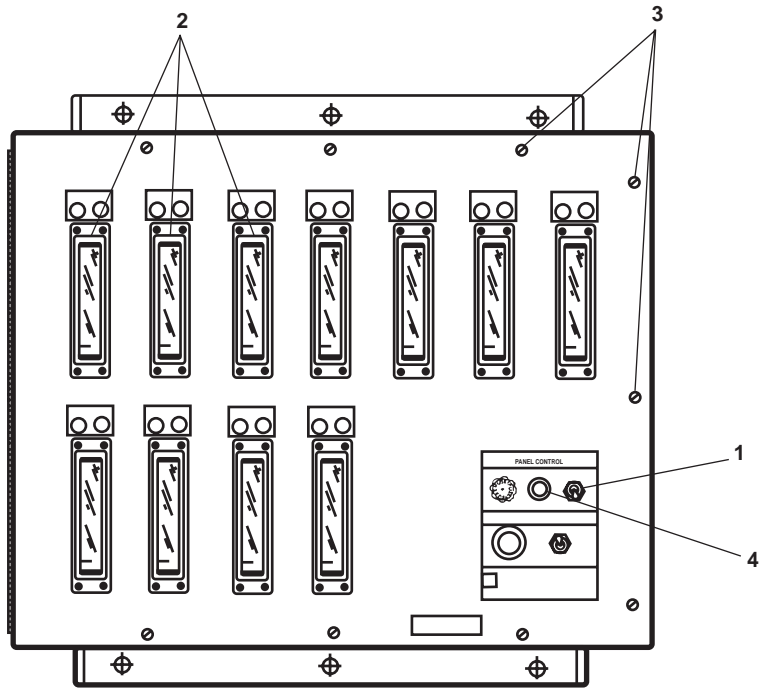
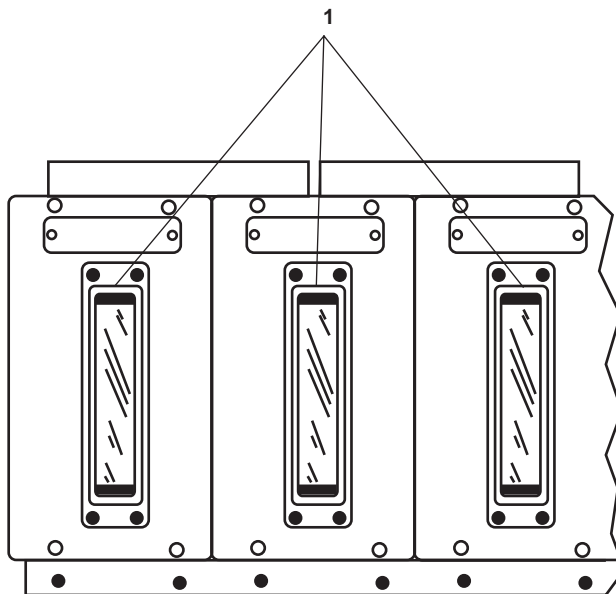
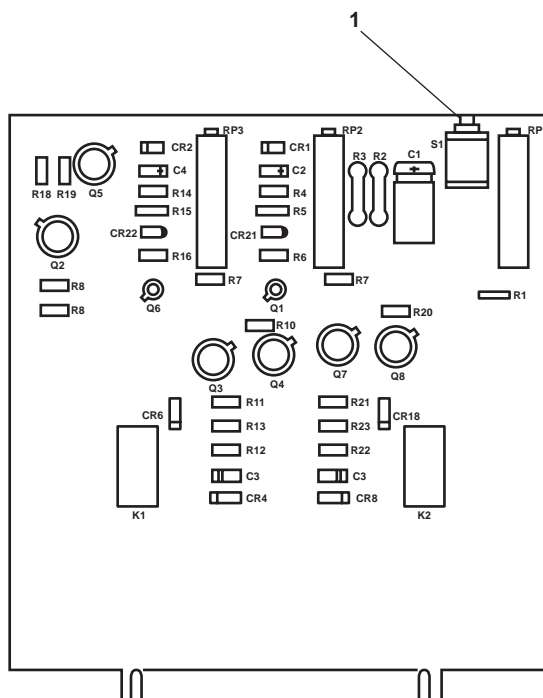

Figure 1. 11 Channel TLI Control Panel
Figure 3. TLI Remote Indicator
Figure 4. Control Module Circuit Card
1. Place the POWER ON/OFF switch (figures 1 and 2, item 1) on the TLI control panel in the EOS to OFF.
2. Verify that the fluid meters on the control panel (figures 1 and 2, item 2) and at the remote indicator panel (figure 3, item 1) deflects to zero.
3. Loosen the captive screws (figure 1 or 2, item 3), and OPEN the front panel of TLI control panel that contains the faulty indication.
4. Place the POWER ON/OFF switch (figures 1 and 2, item 1) on the control panel to ON. Verify that the POWER lamp (figures 1 and 2, item 4) illuminates.
5. Locate, press, and hold the CALIBRATE pushbutton switch (figure 4, item 1) on the suspect control module in the TLI control panel.
6. While the CALIBRATE pushbutton switch (figure 4, item 1) is pressed, verify that the selected control panel fluid level meter (figures 1 & 2, item 2) and the associated remote indicator panel fluid level meter (figure 3, item 1) deflects to the full-scale position.
8. Release the selected CALIBRATE pushbutton switch (figure 4, item 1).
9. At the TLI control panels, place the POWER ON/OFF switch (figures 1 and 2, item 1) to OFF.
10. CLOSE and secure the TLI control panel front covers (figure 1 or 2, item 3).